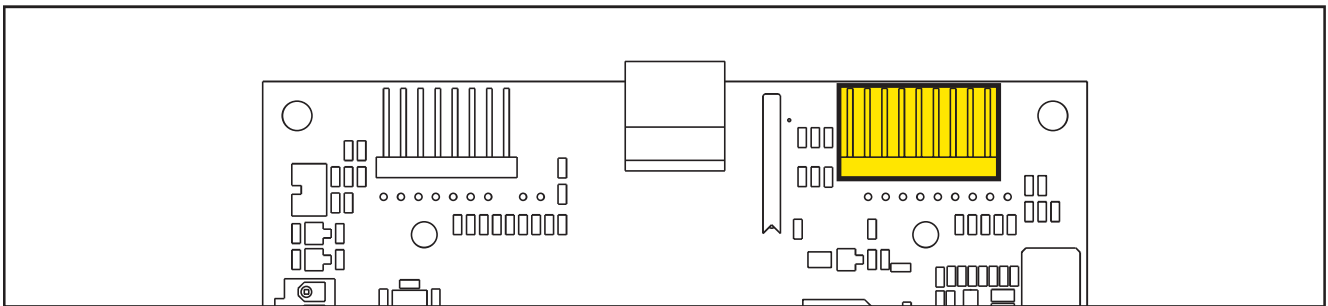

Figure 30:
**(Figure 30) J2: FCI DUFLEX (2.54 pitch) 9-way, male pins**